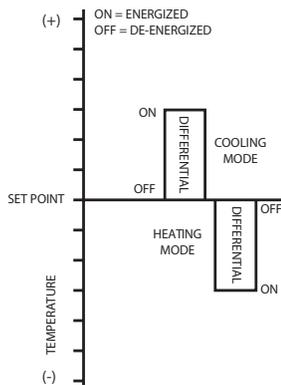

Figure 1: Setpoint and Differential Settings. Diagram indicates relay on and off points in either the heating or cooling modes.
The temperature setpoint refers to the temperature at which the normally open (NO) contacts of the output relay will open. Determine the load(s) to be controlled and the operating mode required, cooling or heating. Refer to Figure 1 for a visual representation.